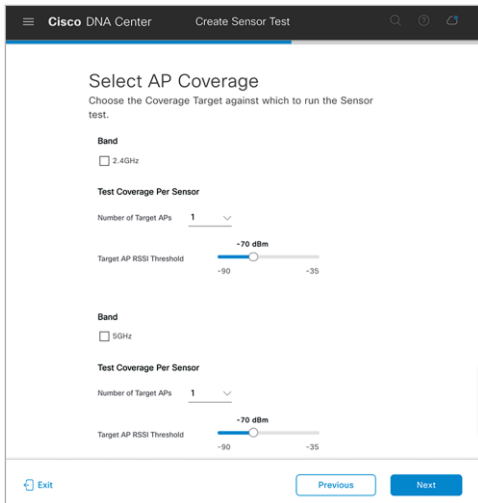

Figure 80.
14. From the Select AP Coverage page, configure which band to test, the RSSI coverage threshold, and the number of test target APs per band (**Figure 80**).
Note: The Target AP RSSI Threshold slider bar is inverted. In the example shown in **Figure 80**, the sensor would be configured to target APs in an RSSI range of -70 to -35 dBm.